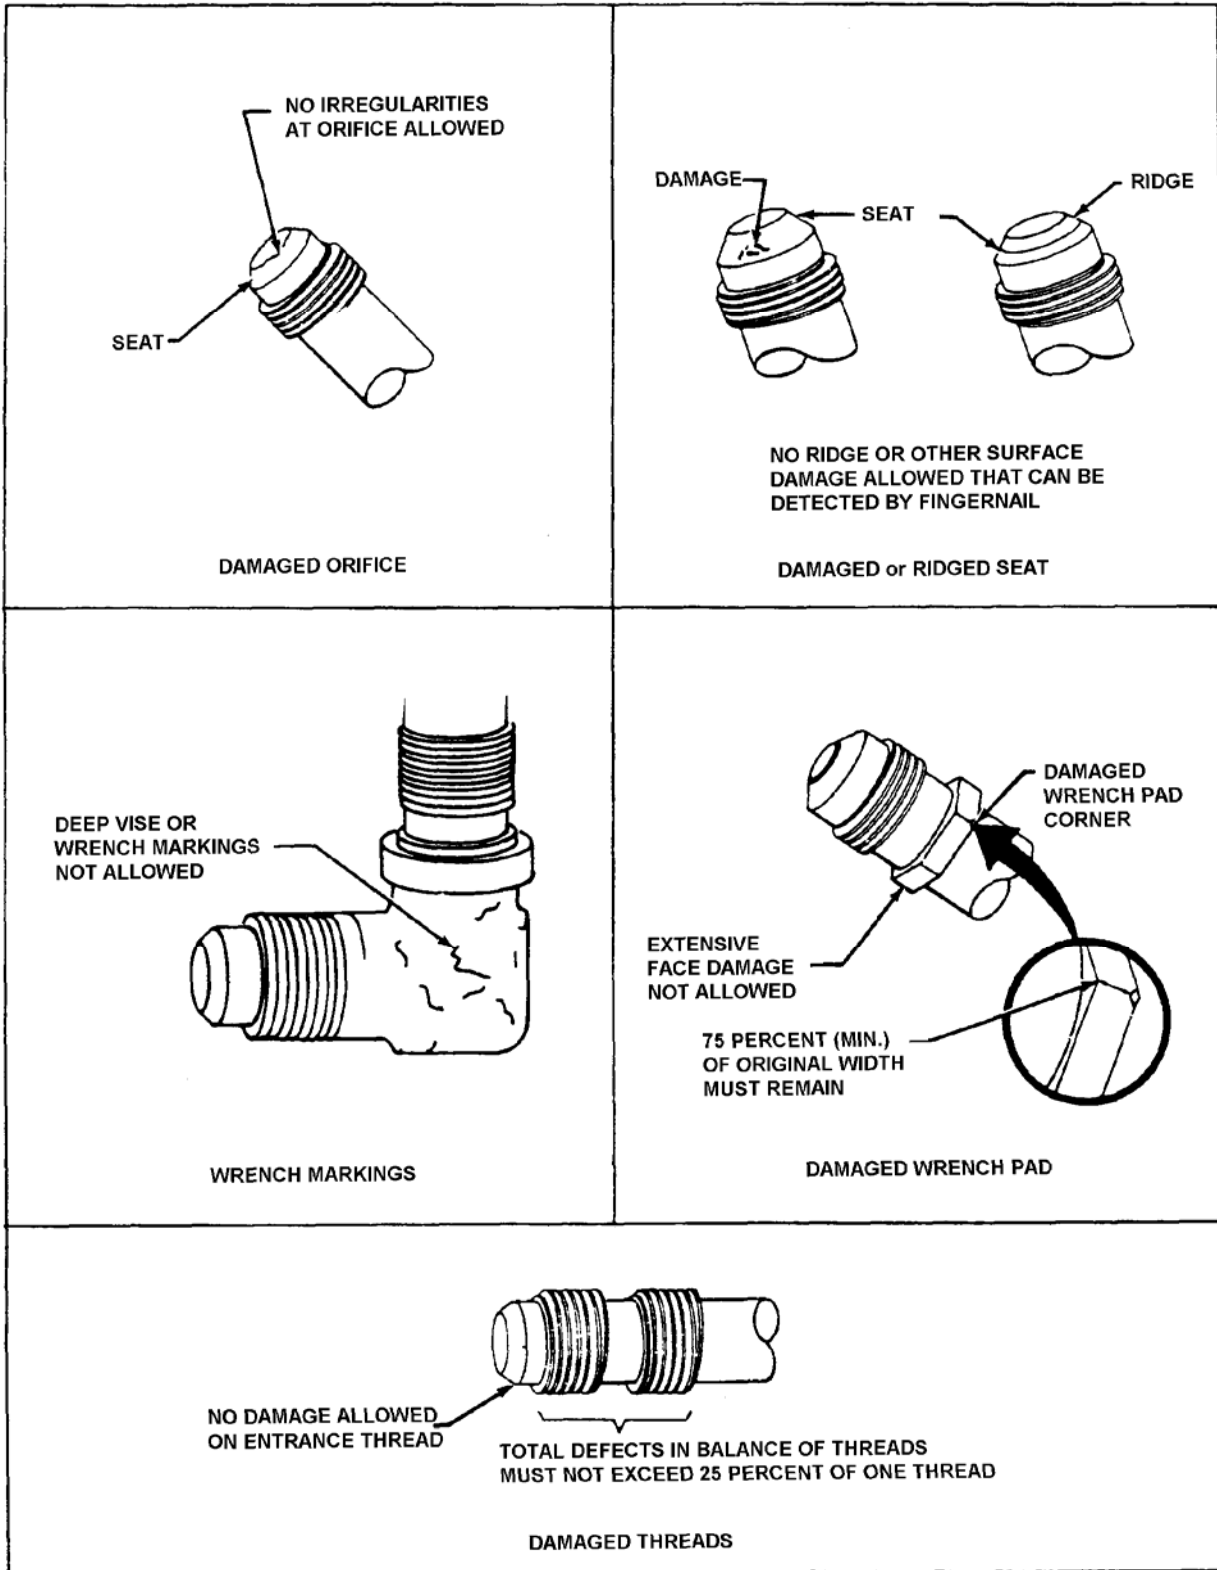

Figure 1. Damaged Fittings
a. Visually or flow check that fitting passage or passages are free from obstructions (Figure 1).